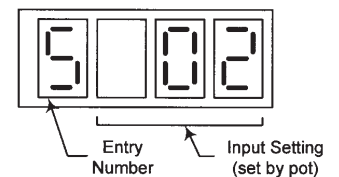
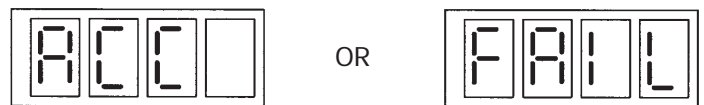

Figure 5. Typical Fifth Calibration Display
Figure 6. "Accept" and "Fail" Displays
- k. When you press the calibration button to accept the fifth and final reading (Figure 5), the system will indicate a successful calibration run by flashing "ACC." (accepted), as shown in Figure 6. Press the button one more time to clear the accepted indication and return to normal operation.